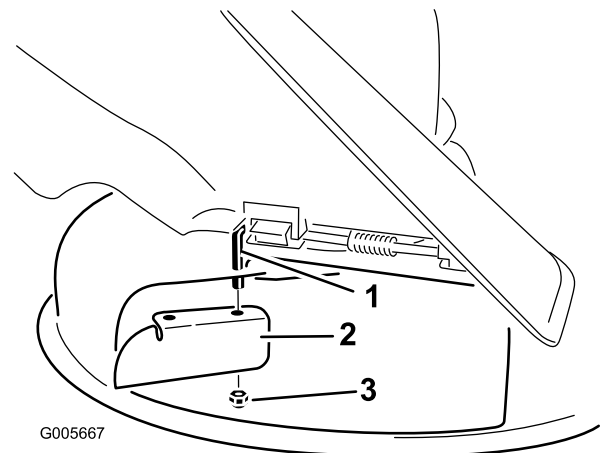

Figure 26
6. Install the cutoff baffle to the exposed pivot rod (Figure 26). Use the existing thin nut (3/8 inch) to secure the baffle to the mower.